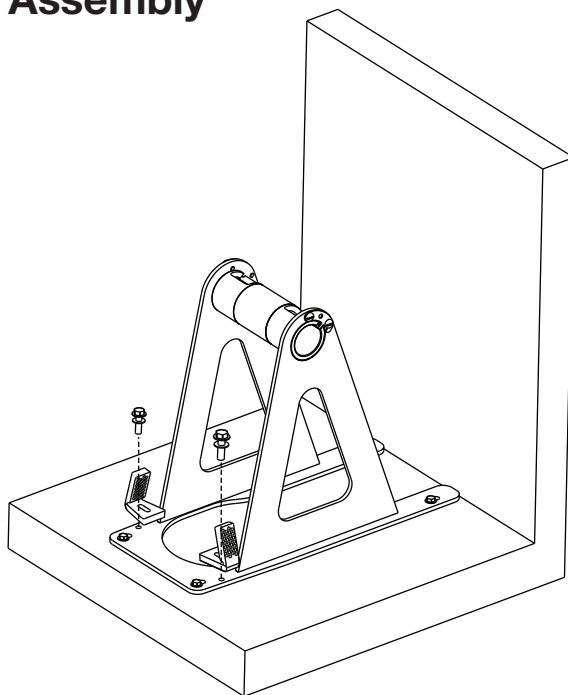

Fig. 3
3. Attach the two (2) D82 pan fixing brackets using supplied screws through the holes in the hinge bracket as shown above in **Fig. 3**. Ensure holes in pan line up with fixing brackets.